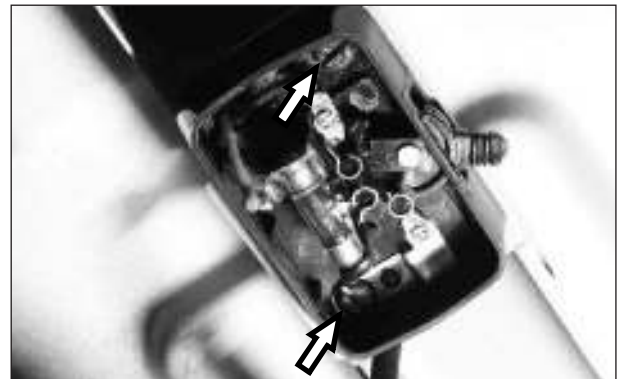

Fig. 9.36
- Loosen and remove 2 nos. Self tapping screw engine bay lamp mounting from cross member camp cabin support rear. (Fig. 9.36)